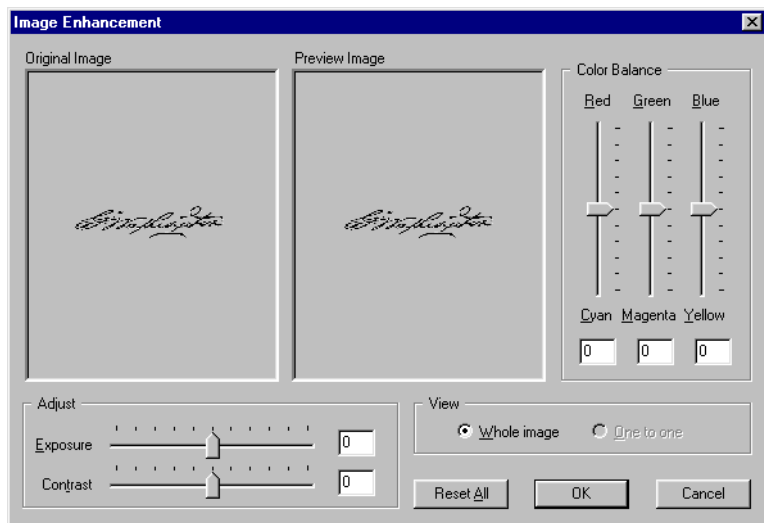

Figure 32: Signature Image Enhancement
- When an acceptable signature is entered, click the button. The Image Enhancement window appears (see Figure 32).